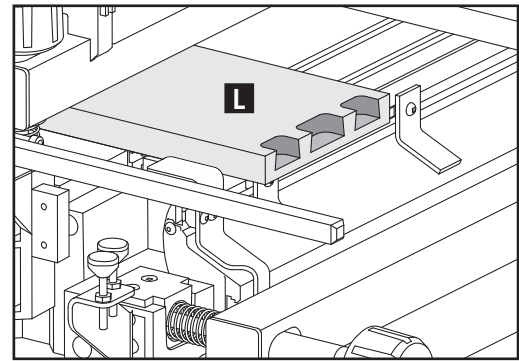

Fig. E10
- NOTE:** Move router slowly from left to right, taking small cuts and multiple passes. Your final cut should resemble Fig. E10.
14. Remove pinboard (L) Fig. E10.